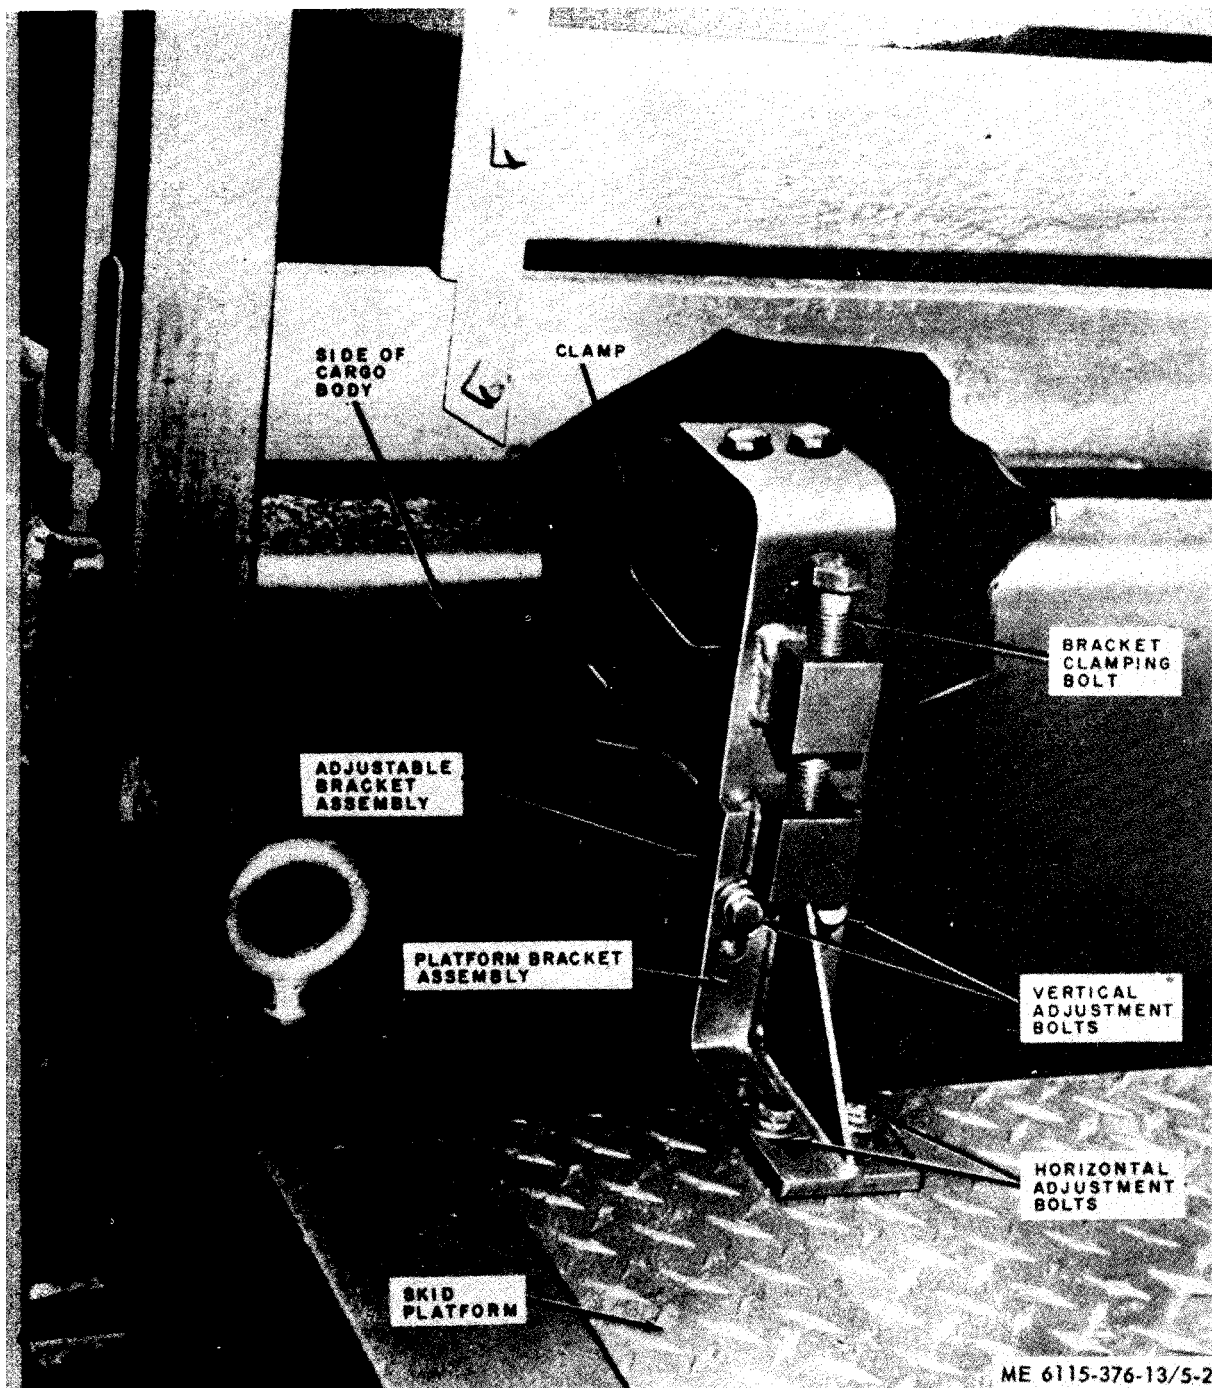
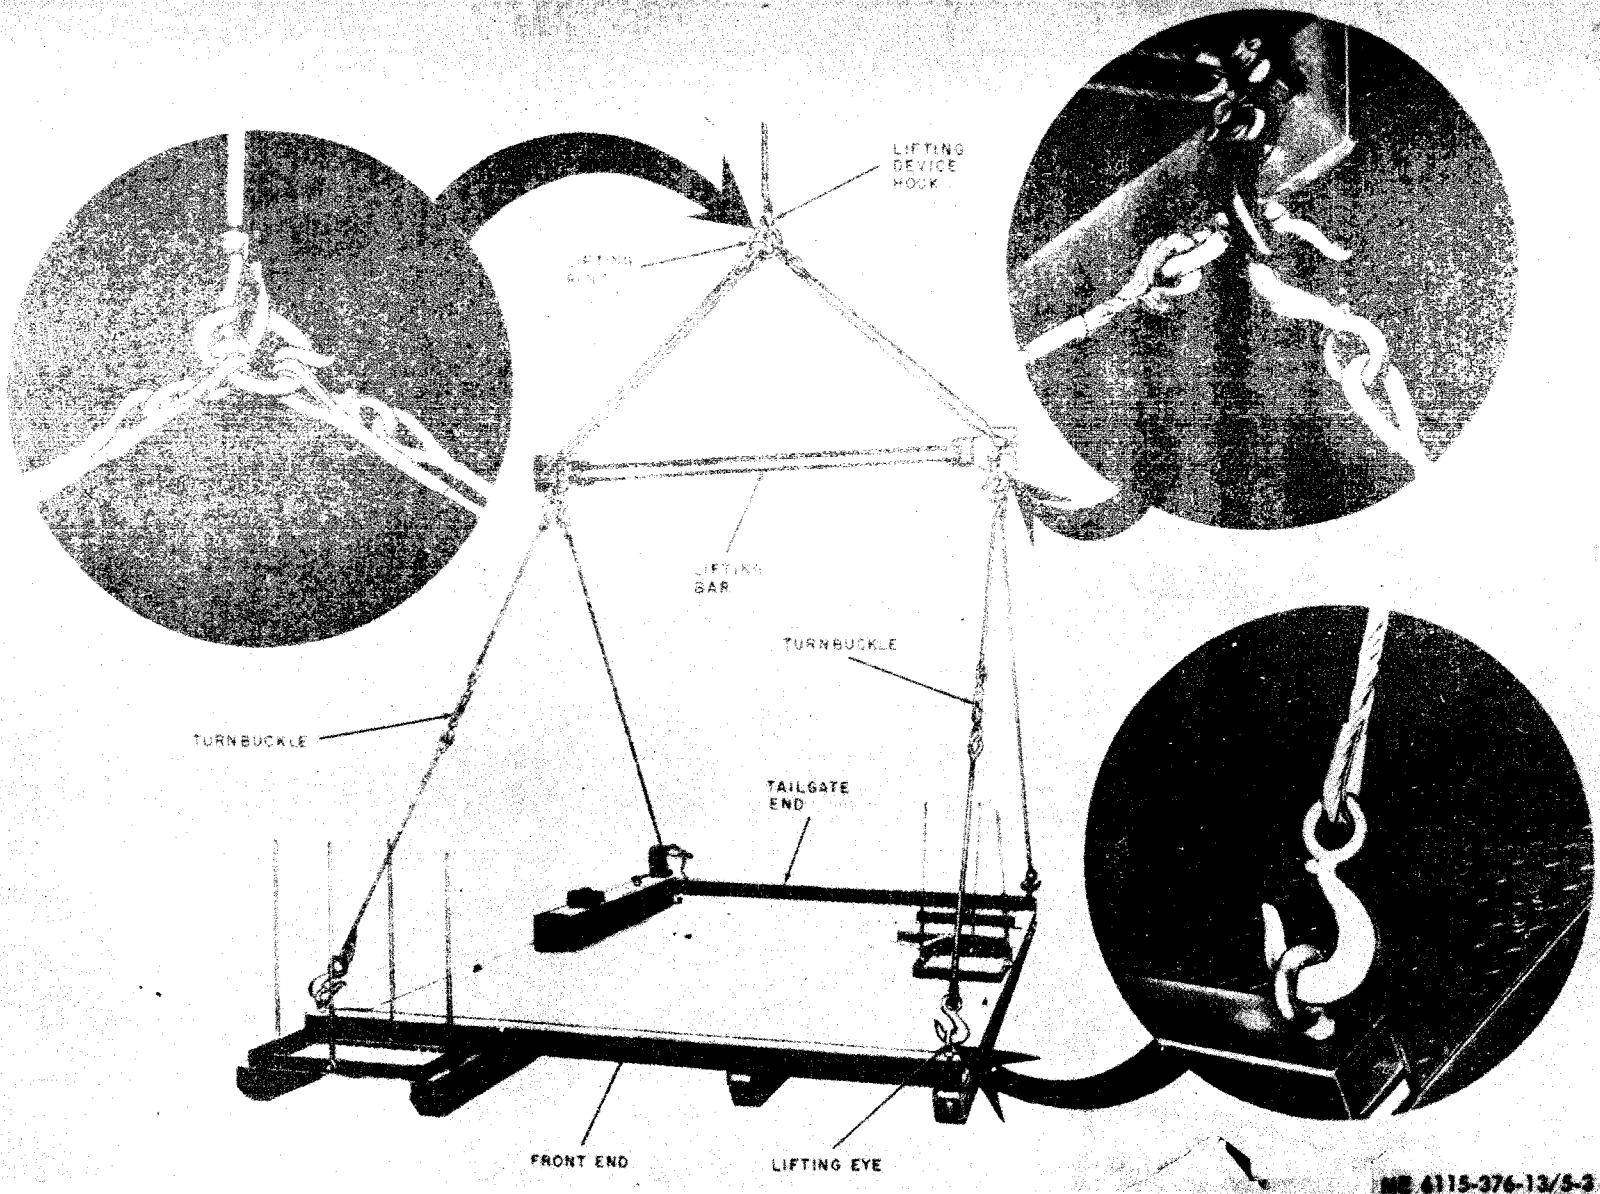

Figure 5-2. Skid platform holddown assembly.
Figure 5-3. Lifting sling assembly in use.
b. Removal. Release each skid platform hold-down assembly (fig. 5-2), and attach sling assembly to lifting eyes (fig. 5-3) as follows:
(1) Loosen bracket clamping bolt until free of platform bracket assembly.
(2) Remove vertical adjustment bolts.
(3) Slide adjustable bracket assembly and clamp to one side of platform bracket assembly.
(4) Loosen horizontal adjustment bolts and slide platform bracket assembly away from side of cargo body.
(5) Connect sling assembly and lifting bar to skid platform as shown in figure 5-3.
(1) Connect sling assembly and lifting bar to skid platform (fig. 5-3).
(2) When installing a fully equipped skid platform lift the skid platform and adjust turnbuckles on the two front sling leg cables until the skid platform is level.